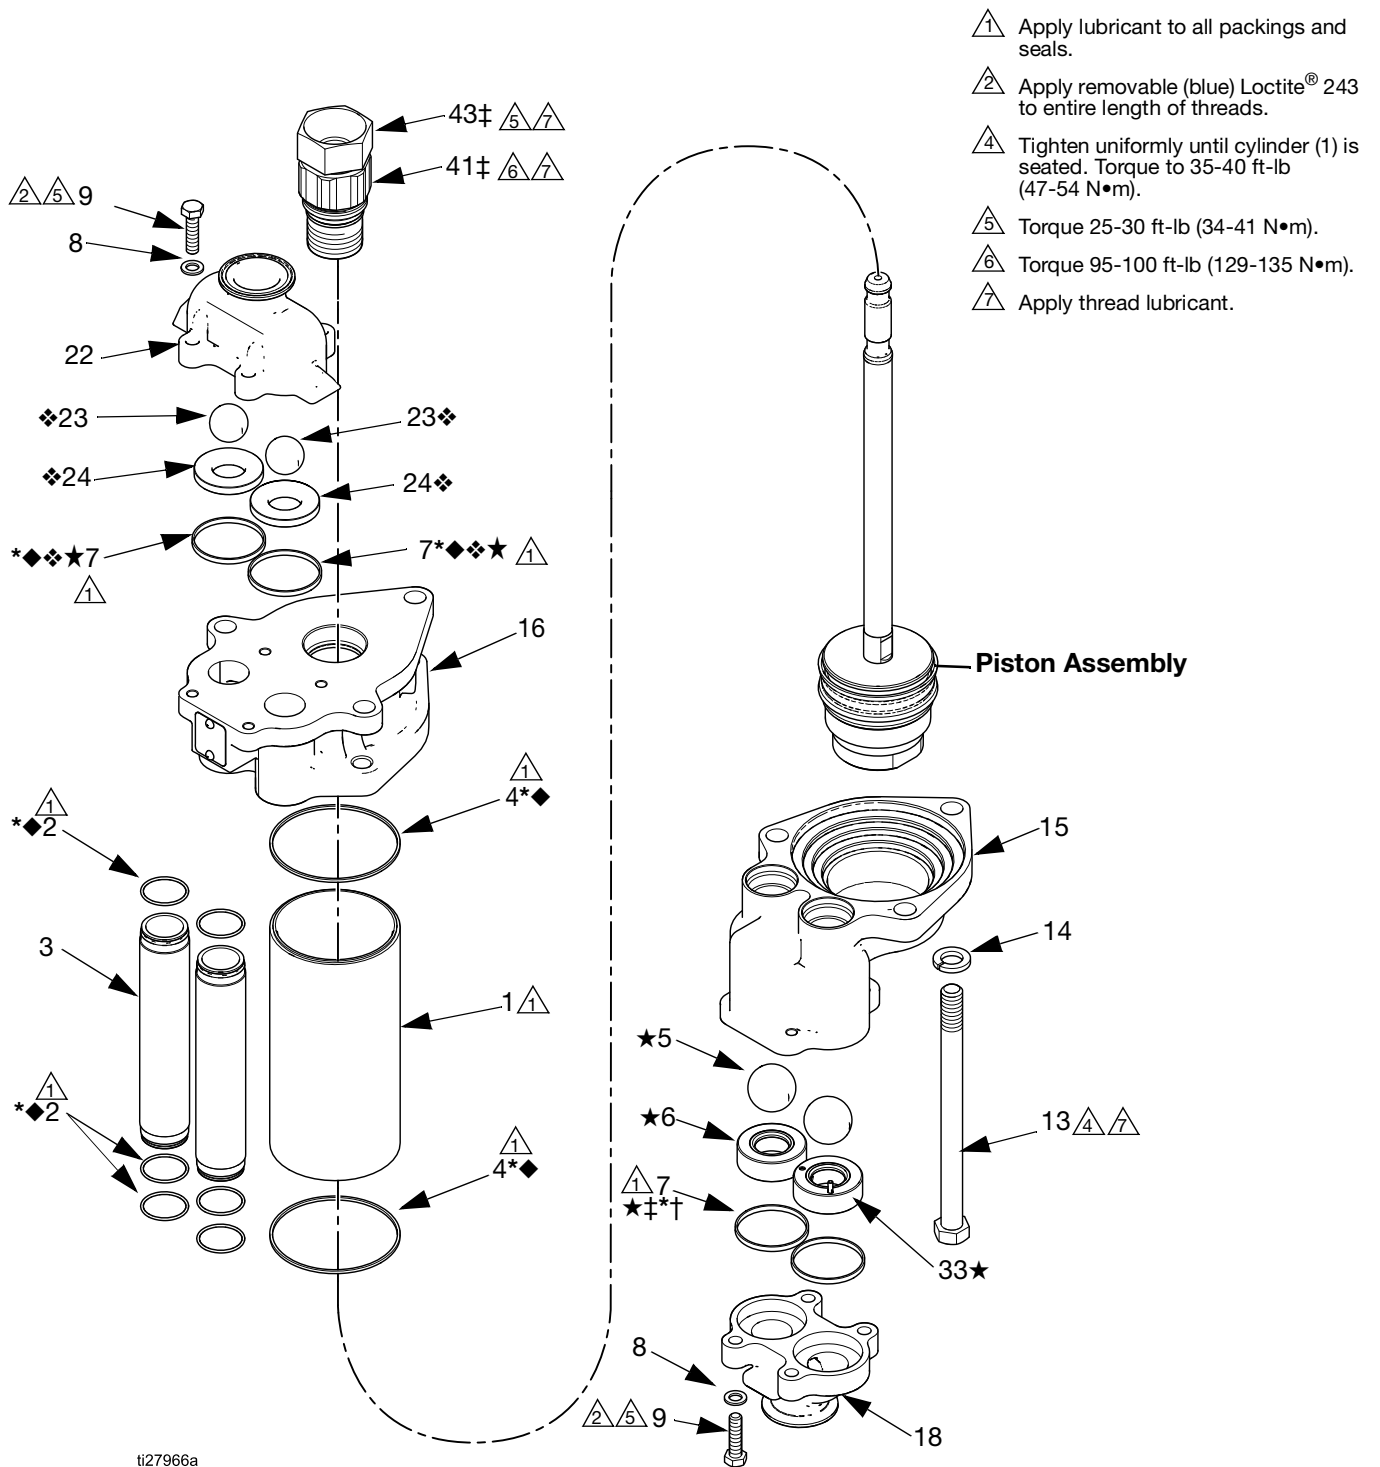

FIG. 5. Exploded View of Lower
NOTE: See FIG. 5, page 9, for an exploded view of the parts.
See FIG. 5, page 9, for an exploded view of the parts.
1. With the fluid inlet housing (15) turned upside down, install the inlet check balls (5★). Lubricate and install the gaskets (7*◆❖★).
COMPONENT RUPTURE HAZARD The inlet check seat that has the relief valve (6★) must be installed at the fluid inlet, as shown in FIG. 5. The relief valve reduces the risk of pump overpressurization. The seat cannot relieve pressure if installed on the other side of the fluid inlet housing (15).
4. Place the inlet check manifold (18) on the fluid inlet housing (15). Apply removable (blue) Loctite® 243 to entire length of the capscrew (9) threads. Install the lock washers (8) and capscrews (9). Torque to 25–30 ft-lb (34–41 N•m). See FIG. 5.